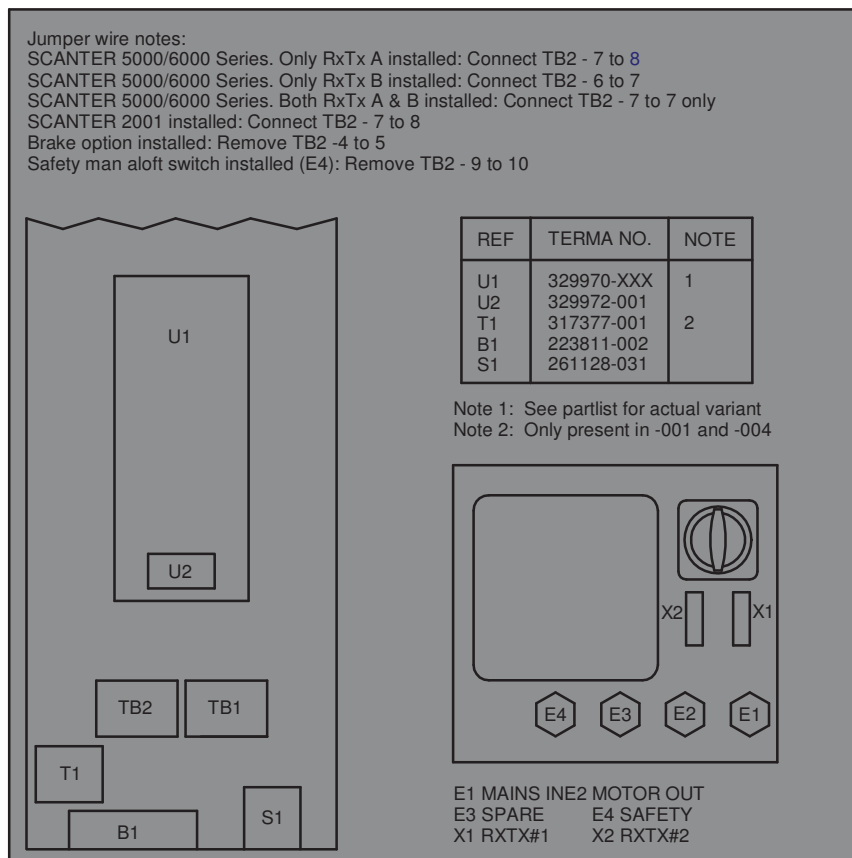

Fig. 7.2 ACU jumper wiring instructions
- B Alternatively, follow the jumper wiring instructions found inside the ACU cabinet (see example in Fig. 7.2 (p. 109)). These are also available in doc. no. 659002-ND.